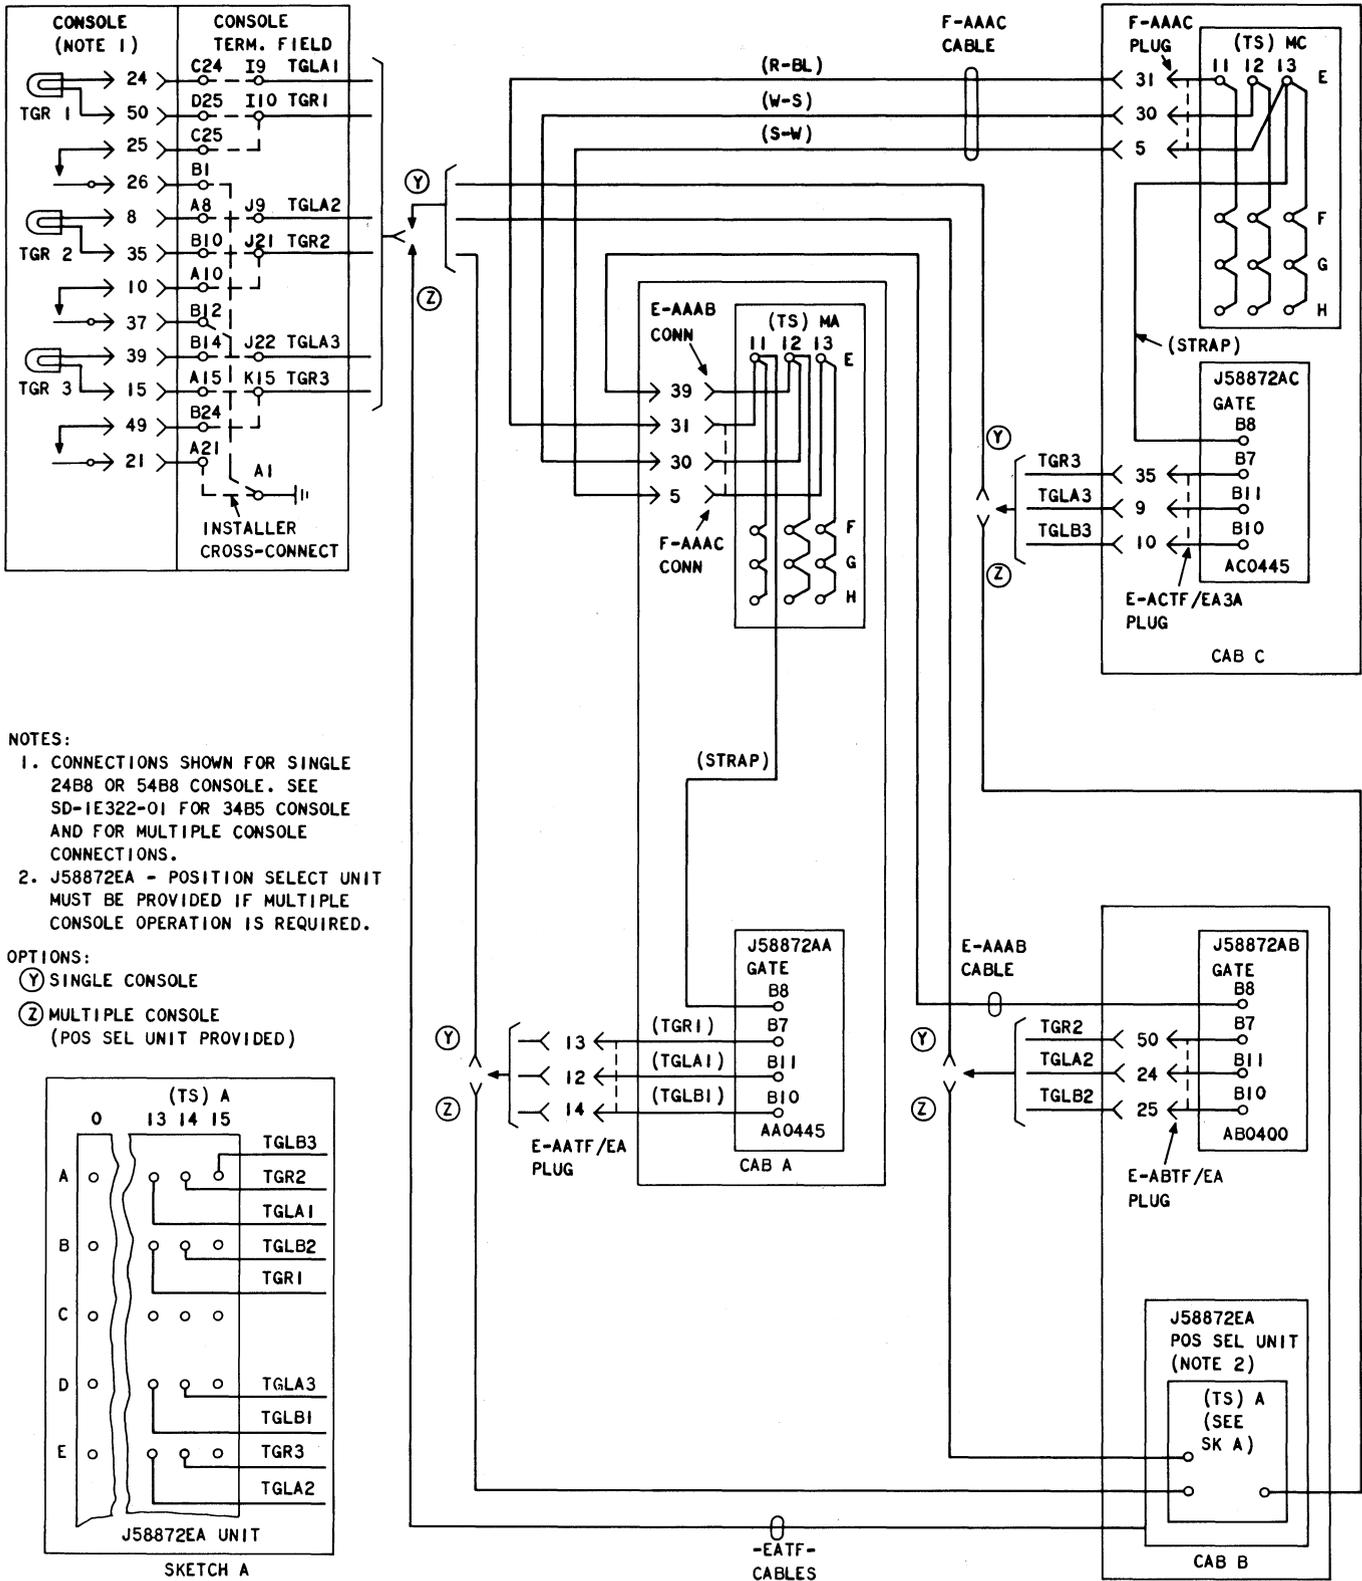

Fig. 11—Wiring Modification to Provide Attendant Control of Station Dial Access to Trunk Groups Feature
- (1) On the rear of terminal block TS(MA) in the service connection field of cabinet A, use bare wire to strap the following terminals: E11 to F11 to G11 to H11; E12 to F12 to G12 to H12; and E13 to F13 to G13 to H13 as shown in Fig. 11.
with the AC78 circuit pack in carrier location AA0445 as shown in Fig. 11.
(6) Verify that the BK-BR lead from pin 39 of the E-AAAB cable is terminated on terminal B8 of the 908E connector at location AB0400 in cabinet B. If the connection is not present, terminate this lead. See Table P and Fig. 11.
(7) Using 24BW green wire (814620548), strap terminal E13 of (TS)MC in cabinet C to terminal B8 of the 908E connector at carrier location AC0445 as shown in Fig. 11.
(8) At (TS)MC in cabinet A and (TS)MC in cabinet C, apply cross-connections required to strap the trunk group to the TGR- terminals in accordance with local engineering instructions. See Section 553-201-101 for information on applying service connection field straps.
(9) At the console termination field panel (key and lamp panel), apply cross-connections required to connect trunk groups to console key(s) as shown in Table Q.
(10) Verify all straps and wiring and lace the added wiring to existing wiring as necessary. Replace the AC78 circuit pack at locations AA0445, AB0400, AC0445, and AD0400 with an AC78B circuit pack.
(11) Designate the TGR- keys on the console, and perform operational test as outlined in Section 553-201-200.